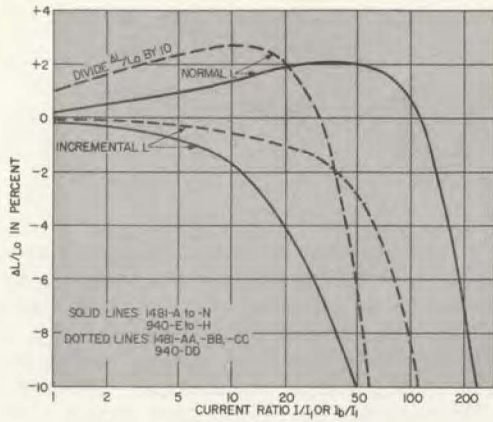

Figure 1. Percentage change in normal and incremental inductance with ac and bias current. Incremental curve is limited to an ac excitation less than  $I_1$ .
**Change in Inductance with Current:** Fractional change in initial inductance with ac current for each type of toroid is shown in the normal curves, Figure 1, in terms of the ratio of the operating current,  $I$ , to  $I_1$ , the current for 0.25% change, solid line (0.1%, broken line). For ratios below unity, inductance change is directly proportional to current. Values of  $I_1$ , listed below, are approximate and are based on the largest inductor in the circuit for each setting.
**Incremental Inductance:** DC bias current  $I_b$  will reduce the initial inductance as shown in the incremental curves, Figure 1.